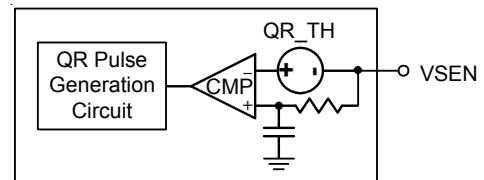

Figure 12. VDD Controller: Quick Response Triggering Circuit
When the transient load step-up becomes quite large, it is difficult for loop response to meet the energy transfer. Hence, the output voltage generate undershoot to fail specification. The RT3662AM has Quick Response (QR) mechanism which is able to improve this issue. It adopts a nonlinear control mechanism which can disable interleaving function and simultaneously turn on all UGATE one pulse at instantaneous step-up transient load to restrain the output voltage drooping. The output voltage signal behavior needs to be detected so that QR mechanism can be triggered. Refer to Figure 12, the output voltage signal is via a remote sense line to connect at the VSEN pin. The QR threshold can be set by SET1 pin setting for VDD controller refers to Table 3.
Then solving the switching condition  $V_{COMP2} = V_{CS}$  in Figure 12 yields the desired error amplifier gain as